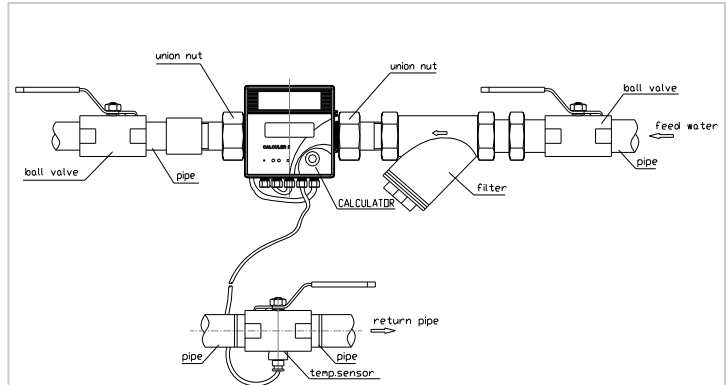
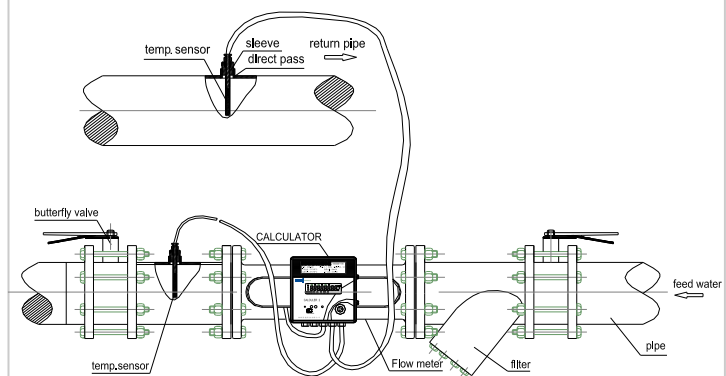

Figure 1: Installation Diagram for DN15 to DN40
Figure 2: Installation Diagram for DN50 to DN 200
1. Install the meter as shown in either Figure 1 or Figure 2.